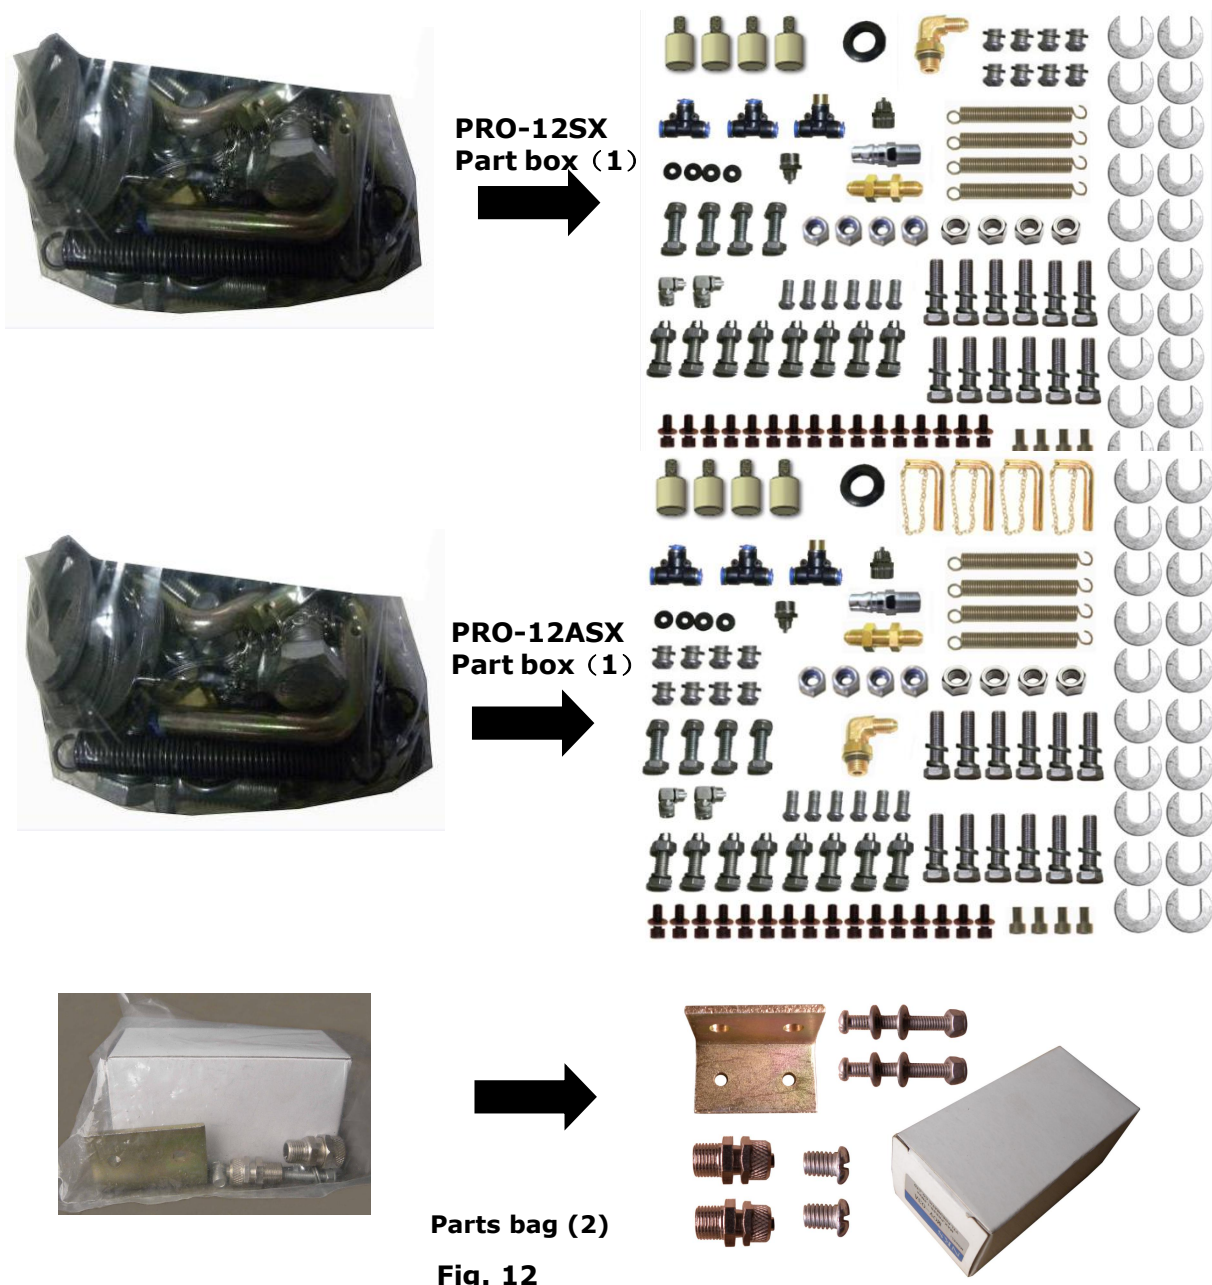

Fig. 12
7. Check the parts of the parts bag according to the parts bag list (**See Fig. 12**)